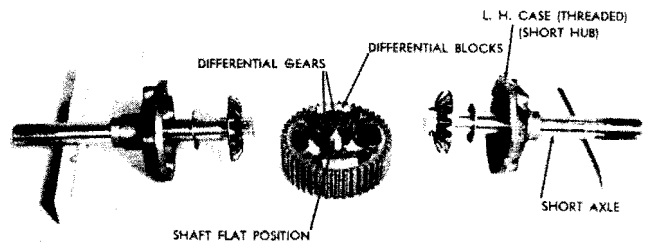

FIGURE 4
5. The axle gears may be removed from the axle shafts by removing the roll pins. A break down of the parts is shown in Figure 4.